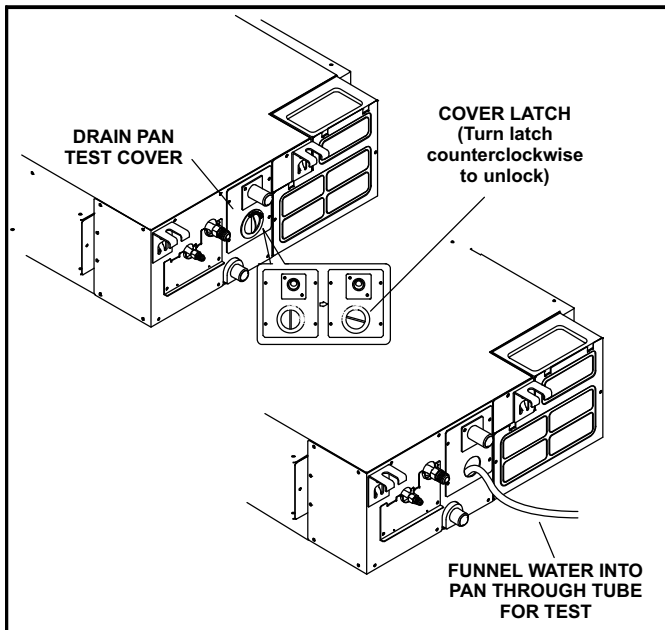

Figure 13. Condensate Drain Test
- 7 - After system installation is complete, the condensate drain line must be checked for leaks and the condensate pumps must be checked to ensure proper operation. This check is part of the commissioning sequence. Turn the condensate drain pan test cover latch counterclockwise to open the cover and access the drain pan. See figure 13. Funnel enough water to engage the pump into the drain pan through a flexible tube.